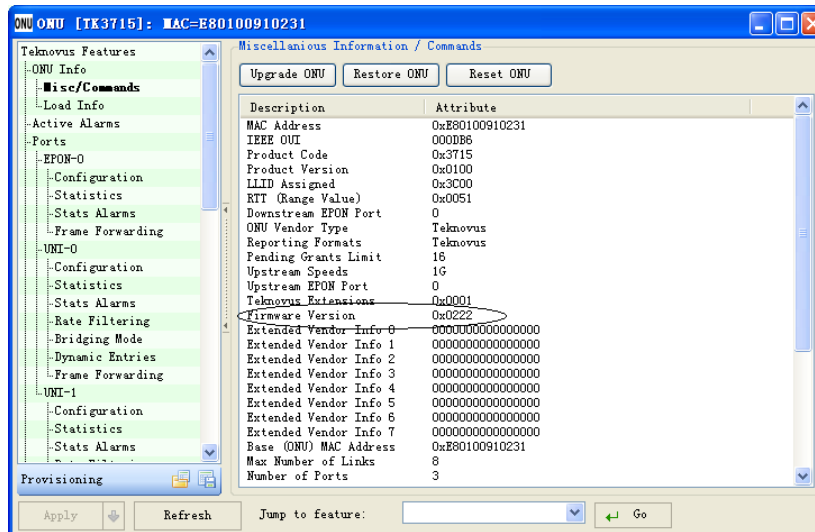

Figure 3-1 ONU Firmware Version
- 3) On the top of the hierarchical tree, select Misc/Commands. Miscellaneous Information/Commands window display is shown in the figure below; the existing version of ONU firmware can be seen shown in the Figure 3-1;